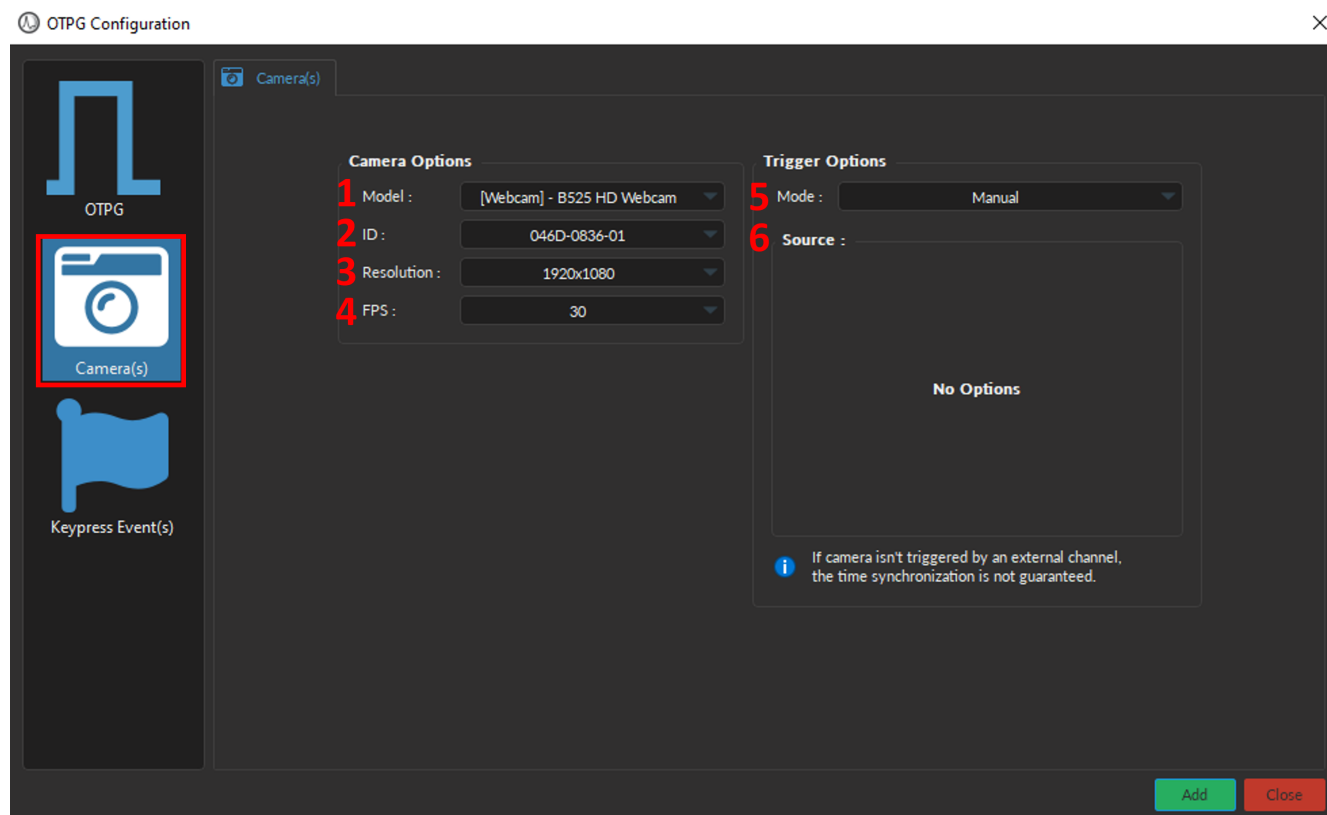

Figure 8.18: Channel(s) configuration window, Camera
1. The **Model** (Fig. 8.18, 1) allows you to select the camera of choice based on the type of camera.
2. **ID** drop-down list (Fig. 8.18, 2) is used to select a camera based on its unique ID. The ID is particularly useful if multiple cameras of the same model are required for the experiment.
3. The **Image Size** (Fig. 8.18, 3) is used to set the resolution of the image. The large the number of pixels used for width x height, the better the resolution. Currently, image size can ranges between 160x120 to 1920x1080 pixels.
4. The **FPS** (Fig. 8.18, 4) is used to specify the frame rate of the camera (i.e. the number of images displayed per second). FPS can be any value between 5 to 30 for web cameras and up to 60 FPS for the *Doric Behavior Camera*.
- The **Mode** (Fig. 8.18, 5) sets the type of trigger that will control the camera. Depending on the type of camera, at most three modes are available:
- The **Source** (Fig. 8.18, 6 & Fig. 8.20) is only used for the **External (Preconfigured)** mode, and displays the **Digital I/O** channel with the preconfigured parameters that will be created at the same time as the **Camera Channel** (Fig. 8.20). For a detailed description of each Digital I/O parameter see Section 8.2.3. Briefly, key parameters include: